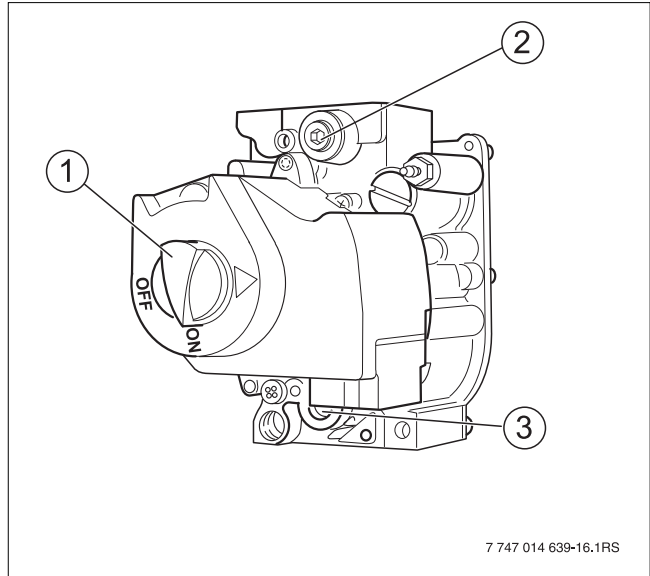

Fig. 8 Gas valve
- ▶ To measure the gas supply pressure, remove the screw plug from the orifice pressure test point (→ Fig. 8, [2], page 8) on the gas valve.